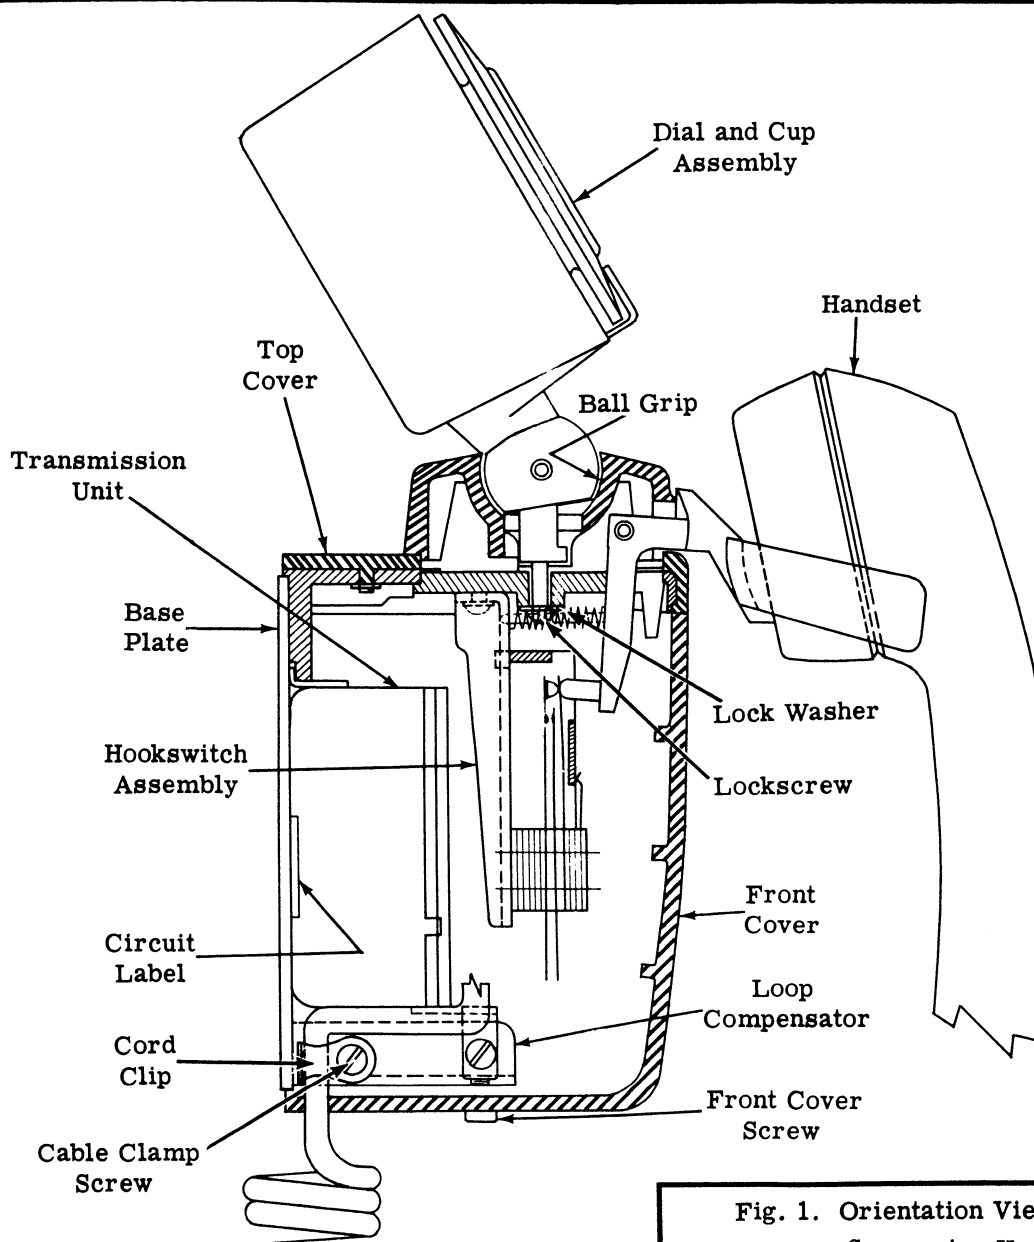

Fig. 1. Orientation View of a Type 183 Suspension Handset.
pensator, terminal strip, and front and top covers. See Fig. 1.
A. Loosen (but do not remove) the lock screw just below the dial grip and ball. See Fig. 1.
A. Loosen lock screw (do not remove). See Fig. 1.